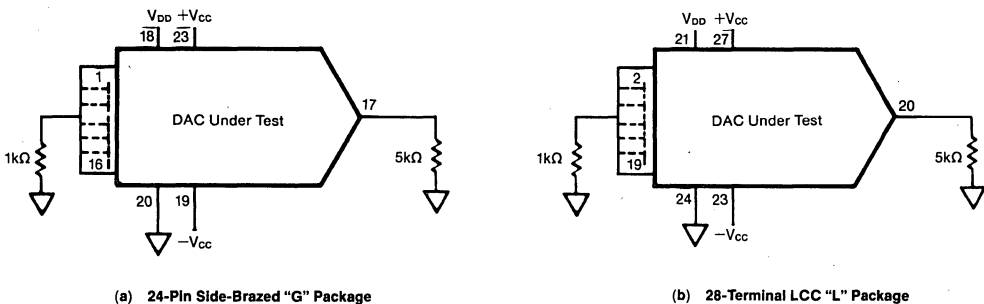

FIGURE 4. Test Circuit for Burn-In and Operating Life Test.
- (1) Test condition B.
- (2) Test circuit is Figure 4.
- (3) $T_A = +125^\circ\text{C}$.
- (4) Test duration is 160 hours minimum.
- (3) $T_A = +125^\circ\text{C}$ minimum.
- (4) Test duration is 1000 hours minimum.